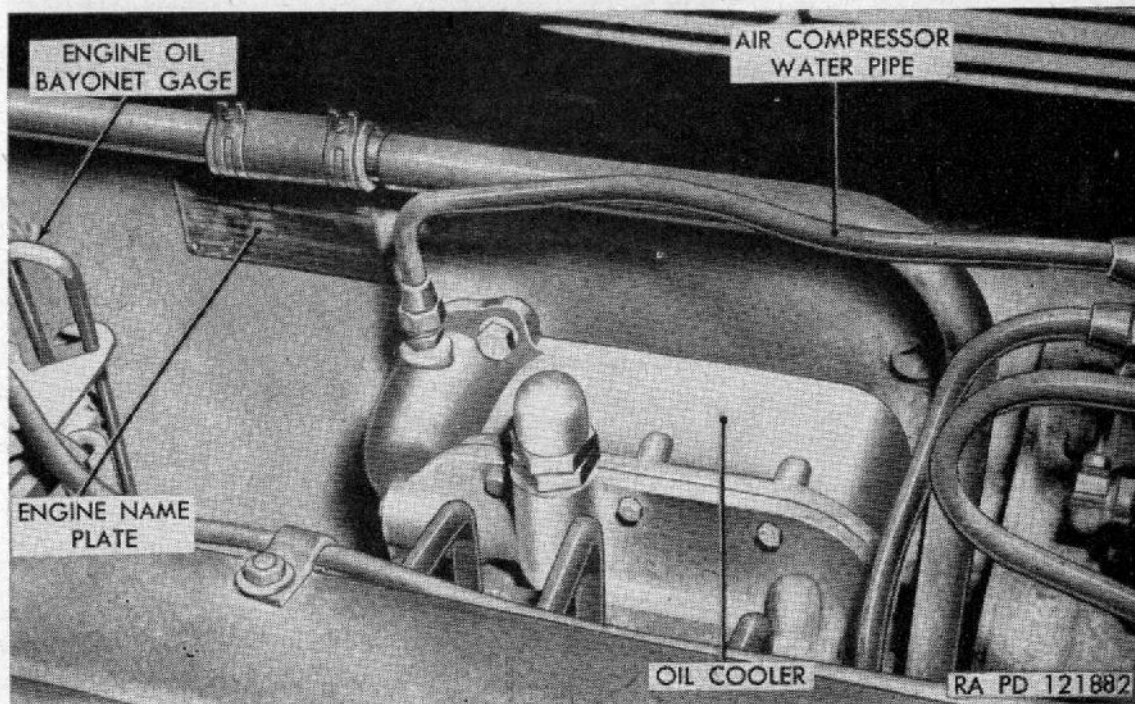
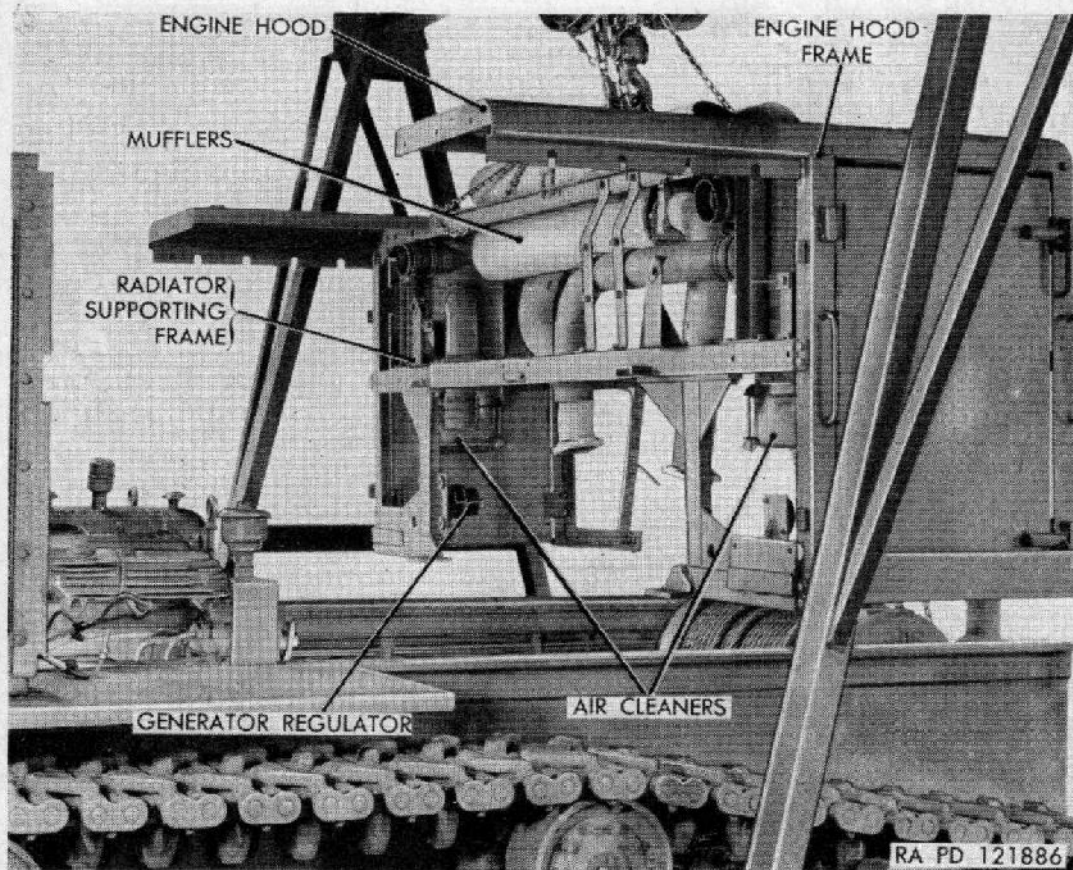

Figure 34. Engine oil cooler.
Figure 38. Removing radiator and hood frame assembly.
- (1) *Description.* The oil cooler on each engine (fig. 34) consists of a housing inside of which is a multiple plate type metal element similar to the core of a steam radiator. This assembly is mounted on the cylinder block next to the water
- (b) *Remove cooler housing.* Disconnect air compressor water pipe from fitting on top of cooler housing (if removing cooler from left hand engine (fig. 34)). Loosen clamp on hose connected to cooler inlet at rear of housing; remove
- (a) *Install cooler housing.* Clean old gasket from attaching surfaces of cooler and crankcase. Cement gaskets to mounting flange of housing. Insert cooler inlet into hose on water pump and tighten clamp. Attach housing to cylinder block with two cap screws and lock washers. Connect air compressor water pipe to fitting on top of housing (if installing cooler on left hand engine) (fig. 34).
d. Remove Engine Hood, Air Cleaners, and Mufflers As One Unit (fig. 38). Loosen clamps on hoses connecting air pipes to carburetor air intake, and slide clamps up on pipes (fig. 61). Remove four bolts that attach lower end of each exhaust elbow to exhaust manifolds (fig.
from generator regulator terminals (fig. 84) and remove bolts from clip on largest wire. Remove engine oil gages (fig. 34). Disconnect air pipes from air compressor air pressure governor at the governor and remove cap screw and bolt from clips on these pipes attached to radiator supporting frame. Disconnect the other end of these pipes that lead to the compressor (fig. 121). Remove two cap screws from clips that secure pipe to side of hull and remove the pipe. Attach lifting chain to top angles and raise assembly a few inches, prying radiator supporting frame away from radiator as it is raised. Move assembly back off the rear end of tractor (fig. 38).
h. Install Fan and Fan Drive Gear Assemblies. Place the fan and fan drive gear assemblies in the positions shown in figure 40. Secure each of the assemblies to center support with four bolts with lock washers at inner ends (bolts to be inserted through housing and support from bottom and with air deflector supports installed below housings on these same bolts). If outer end supports were removed, attach front ends of these supports to front cross member of radiator supporting frame with two bolts and lock washers, then attach outer ends of housing to center of supports with two bolts and lock washers. Do not tighten any of the above bolts until radiator and hood frame assembly has been installed (fig. 38).